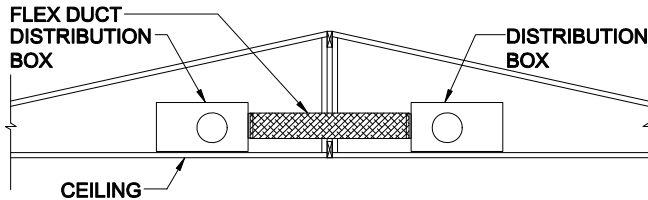

Figure 35. Duct crossover located in the roof cavity
2. **Join ducts.** Using the provided flexible duct, join the distribution boxes in each section of the home as shown in **Figure 35**, cutting off any extra duct length to keep the duct as straight as possible. The duct must be joined in the center